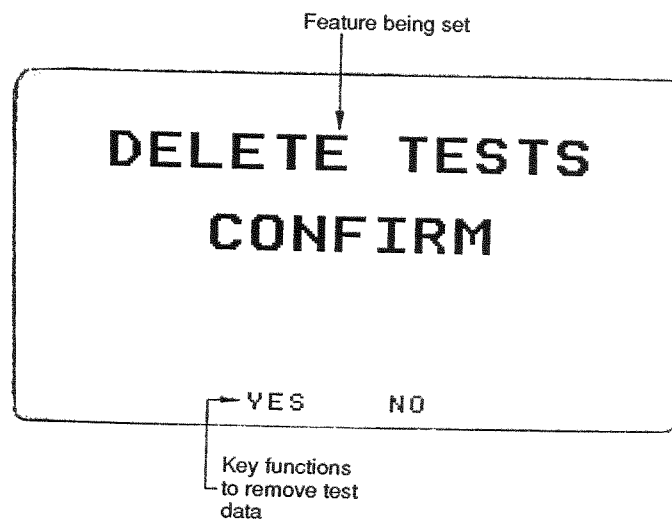

Figure 21 'DELETE TESTS CONFIRM' screen from the 'SETUP STATUS' display
2. Press the 'CHANGE' key to move into the 'DELETE TESTS CONFIRM' screen display as shown in figure 21. Press 'YES' to delete all the test results; press 'NO' to escape.